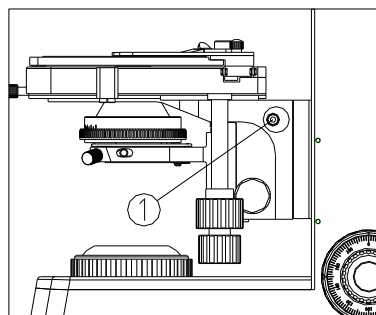

Fig.21
(1) It can be observed at the normal position (Factory Position) for the specimen which is below 27mm in height (See Fig. 21).
(2) When observing the specimen which is 27mm-33mm in height, loosen the bracket lock screw ① with the inner hexangular spanner which is equipped with the microscope. Move the bracket down to the appropriate position, then lock the bracket lock screw ①.